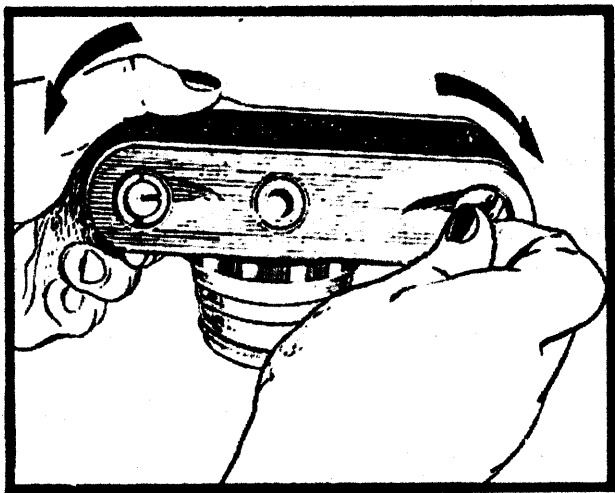
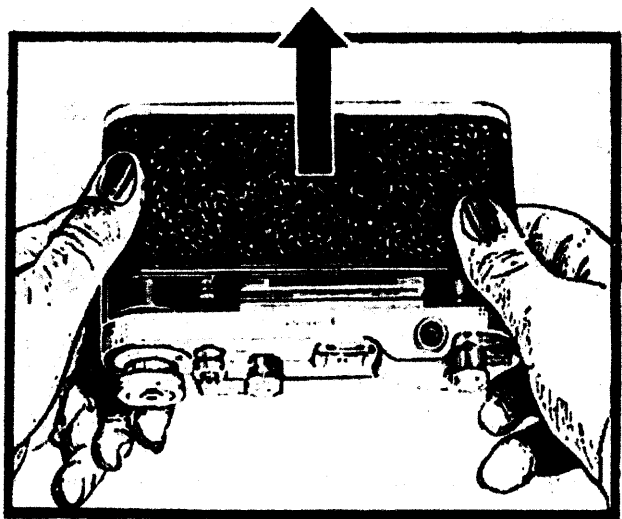
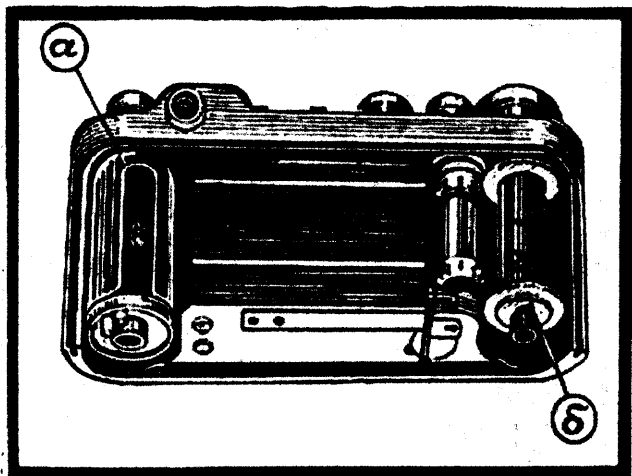

Fig. 2.
Fig. 3.
Fig. 4.
Having turned over the camera, raise the shackles of the locks with a nail and turn them half-way up as far as they will go, as shown on Fig. 2. Pressing with your thumbs, shift the back (24) so that its edge should go out of the groove and remove it (Fig. 3). The opened camera is shown on Fig. 4.